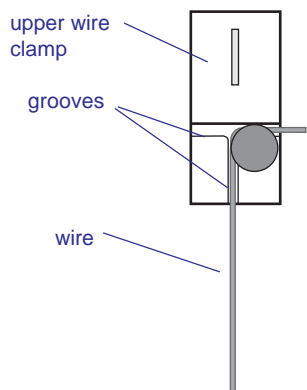

Figure 3
4. Clamp one end of the wire under the washer of the upper wire clamp by firmly tightening the thumbscrew, being sure to seat the wire in the grooves (Figure 3).